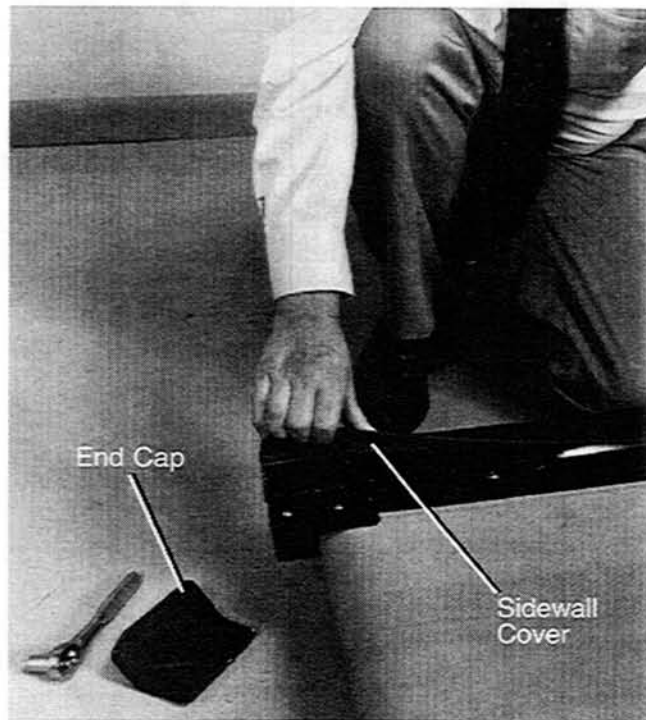

Figure 3-20. End Caps and Siderail Cover
4. Use a 1/2" socket wrench to remove both end caps, located on either side of the belt at the rear of the walking platform. See Figure 3-20 on page 3-12.
5. Grasp the top of the left side rail cover at the rear of the treadmill, then pull it up and away from the treadmill to roll the cover off (Figure 3-20). Repeat for the right cover. (The covers, which are made of flexible plastic, snap into place.)